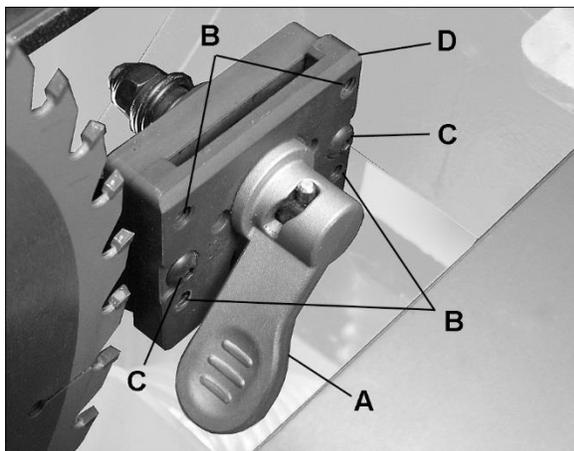

Figure 7-7
- Pull up lever (A, Figure 7-7) and remove riving knife, making note as to which direction riving knife needs to be moved to align it with saw blade.
- Use 3mm hex key to make adjustments to four set screws (B, Figure 7-7). Adjust any of the set screws required to bring riving knife in alignment with saw blade.
- Reinsert riving knife, secure by tightening lever (A) and check alignment per step 2.
- Use 3mm hex key to loosen two socket head button screws (C, Figure 7-7). This will allow the clamp plate (D) to slide back and forth on the fixed base.